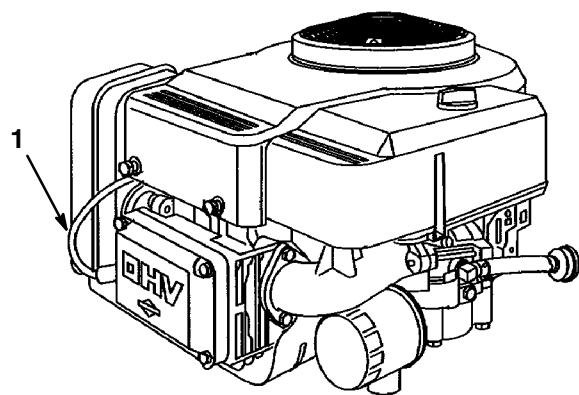

Figure 25
3. Pull the wire(s) off the spark plug(s) (Fig. 25). Clean around the spark plug(s) to prevent dirt from falling into the engine and potentially causing damage.
3. Push the wire(s) onto the spark plug(s) (Fig. 25).